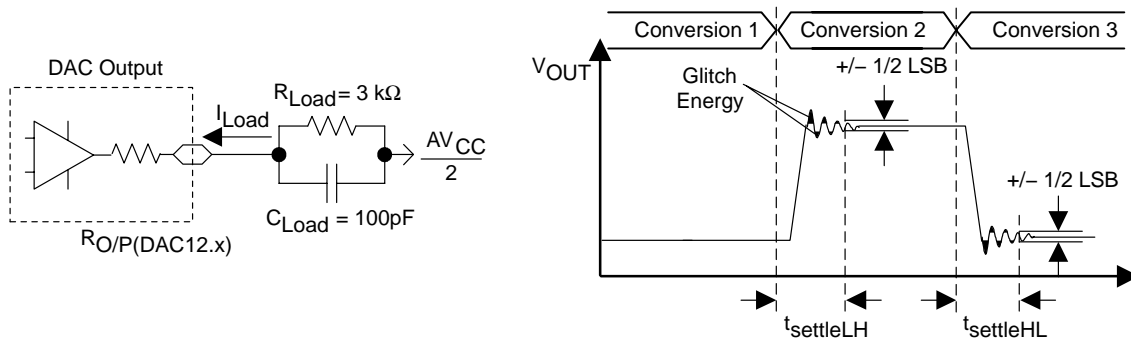
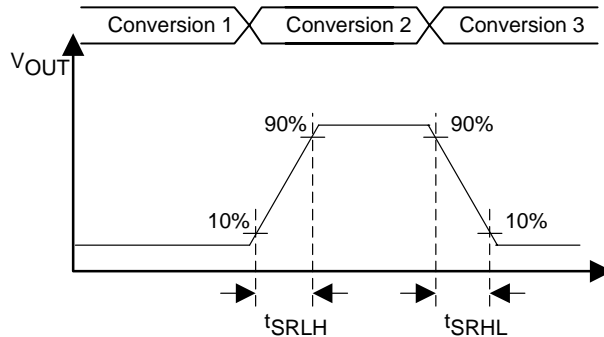

Figure 23. Settling Time and Glitch Energy Testing
Figure 24. Slew Rate Testing
## 12-bit DAC, dynamic specifications; Vref = VCC, DAC12IR = 1 (see Figure 23 and Figure 24)
- NOTES: 1. RLoad and CLoad connected to AVSS (not AVCC/2) in Figure 23.